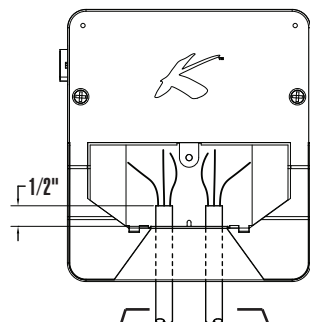

FIG. 1
- Peel back and remove outer jacket on cable to approximately ½" (1.3 cm) of inside of gate. (See Fig. 1)